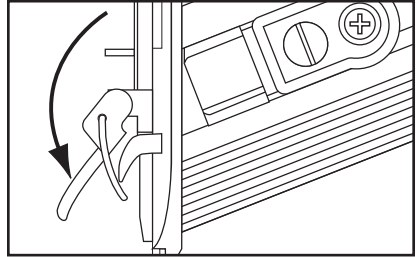

Figure 6. Releasing quick release latch.
3. Flip up the quick release latch located on top of the nailer nose assembly, as shown in **Figure 6**.